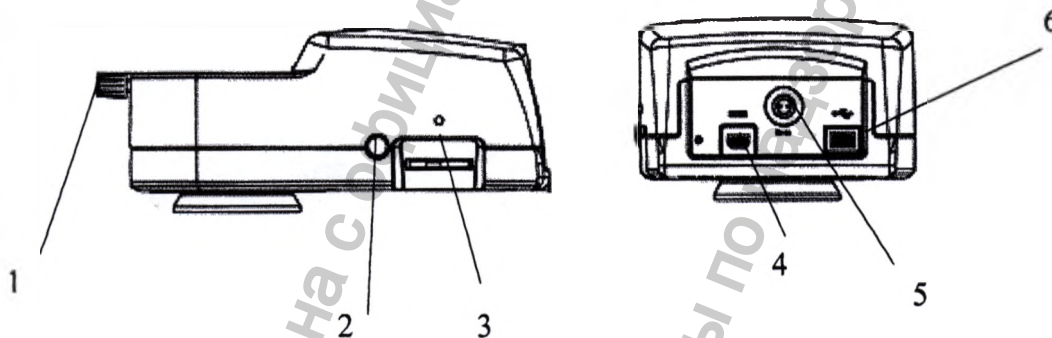

Fig. 33
- 6- USB connector (see fig.33)